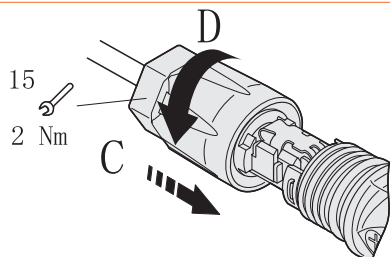

Figure 4-25
⑤ Push the battery connector to the thread joint, and use an open wrench to lock the connector in a torsion of 2Nm tightly, as shown in Figure 4-25: